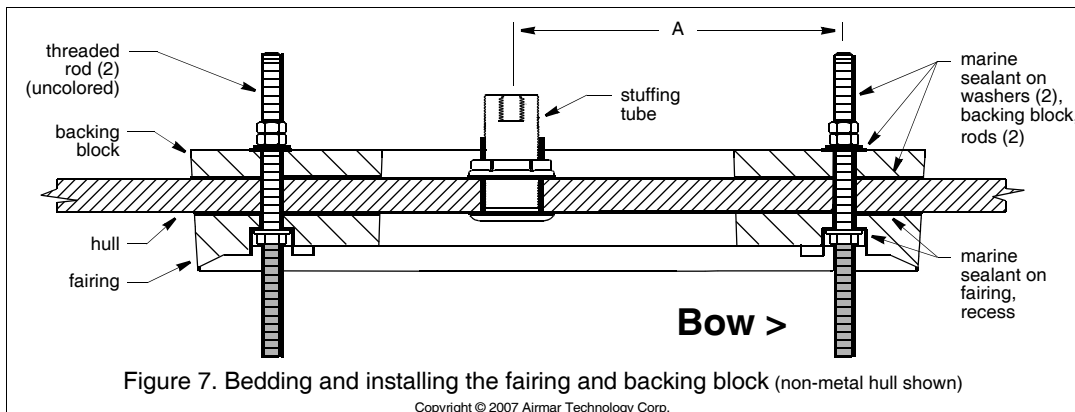

Figure 7. Bedding and installing the fairing and backing block (non-metal hull shown)
1. To locate the hole for the *forward* threaded rod (nearest the bow), measure the distance between the cable exit and the forward hole in the transducer, center to center. (The rounded bottom is forward and the temperature sensor is aft.) **Being sure the fairing will be parallel to the centerline of the boat** (keel), measure this distance A on hull and mark the hole (see Figure 7).
4. Place the fairing against the hull. Push the *uncolored* end of the threaded rod through the fairing and the hull until the nut rests inside the recess in the fairing (see Figure 7). With a person stationed inside the vessel, slide the backing block onto the rod. Temporarily secure the rod with a stainless steel washer and nut.
2. Apply a 2mm (1/16") thick layer of marine sealant: (see Figure 7)
4. Push the *uncolored* section of each threaded rod through the fairing, the hull, and the backing block until the washer rests inside the recess in the fairing (see Figure 7). With a person stationed inside the vessel, secure each rod with a washer (bedded side against the backing block) and double stainless steel nuts. Use